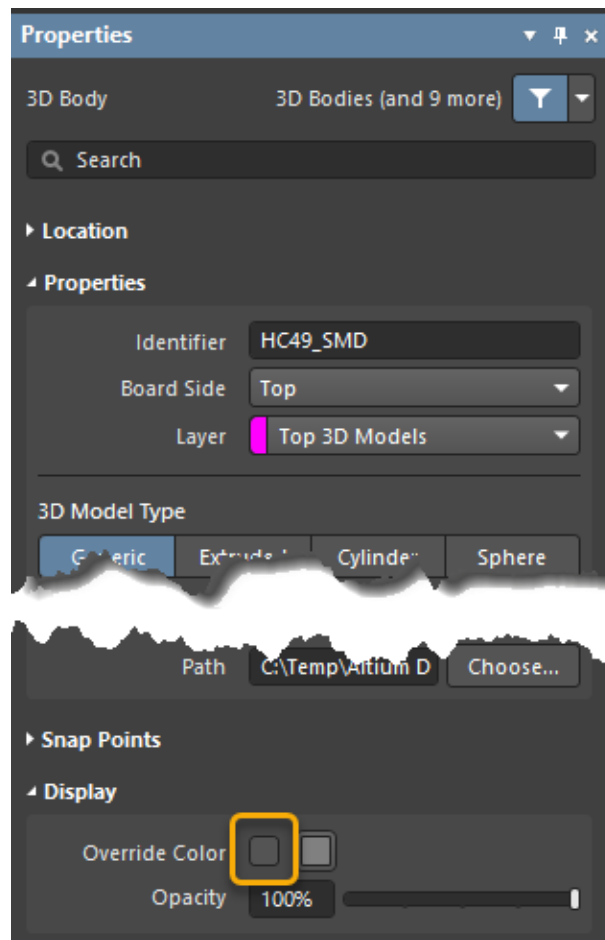

Figure 38. 3D Model Properties
56. With the 3D model still selected, open the *Properties* panel and make sure the *Override Color* option is not enabled, as shown in Figure 38.